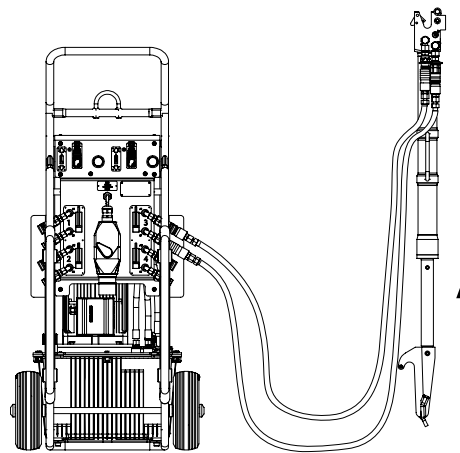

Fig. D5.11c
9. Completely retract the cylinder in order to displace the air pockets on the piston side. (Fig. D5.11c)